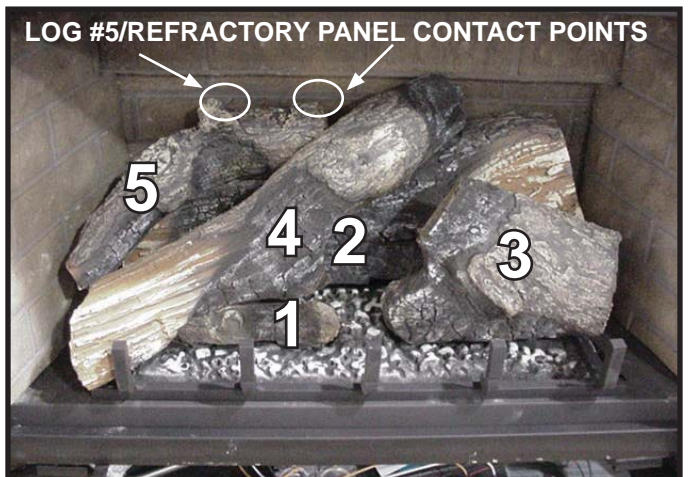

Figure 3.
**LOG #5 (SRV2065-701)** Place log #5 on log #2. The front left of the log will rest on log #4. Log 5 must be pushed back against refractory. See Figure 3.